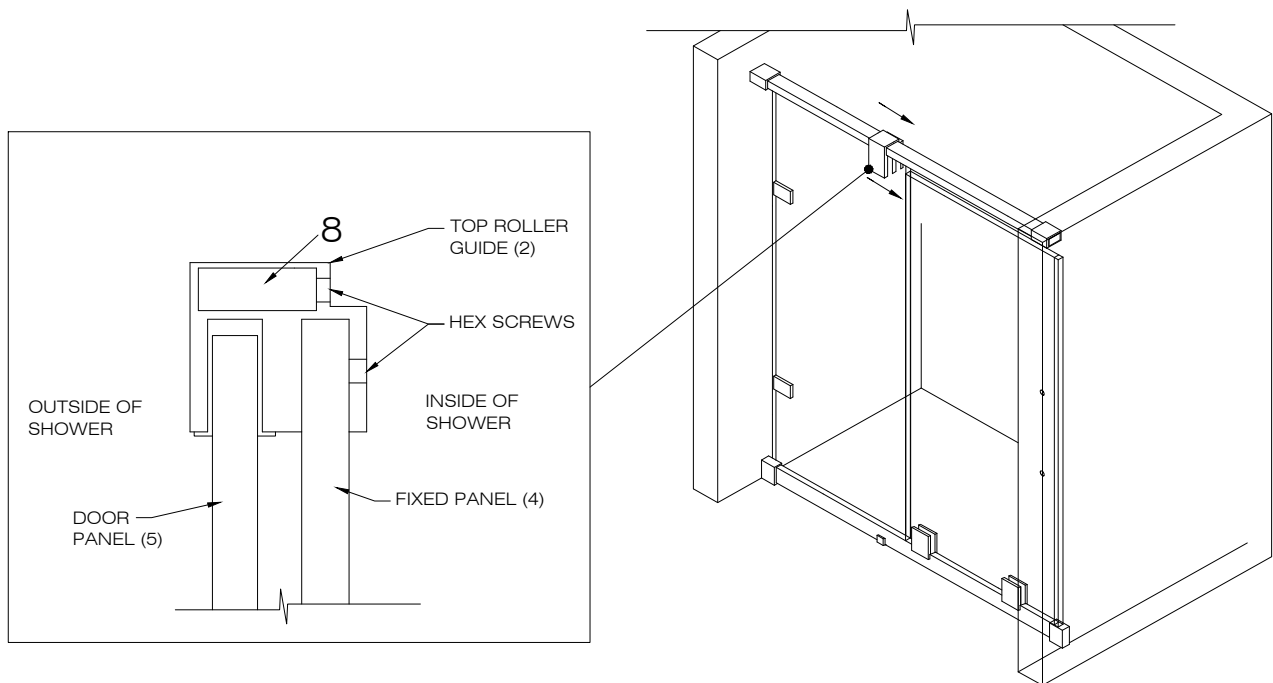

FIG.10
6. Position the door on top of the bottom structural rail making sure the rollers are straddling the rail. Slide the top roller guide (#2) along the fixed panel closer to the door so that the door panel slides into the opening. Once the top roller guide (#2) is in the correct position with the fixed panel (#4) and the door panel (#5) both in place, tighten the hex screws to keep in place. [SEE FIG.10]